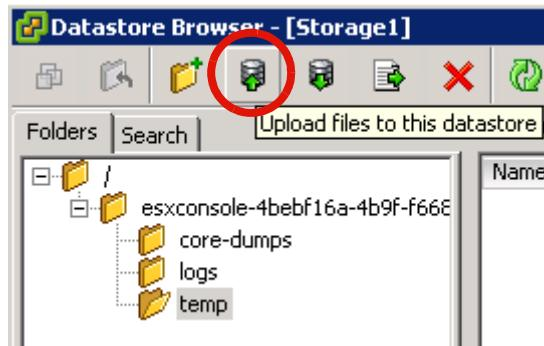

Figure 5-7. Opening the Temporary Driver Folder
11. Click the Upload icon to upload the driver ISO files into the temporary folder (Figure 5-7).